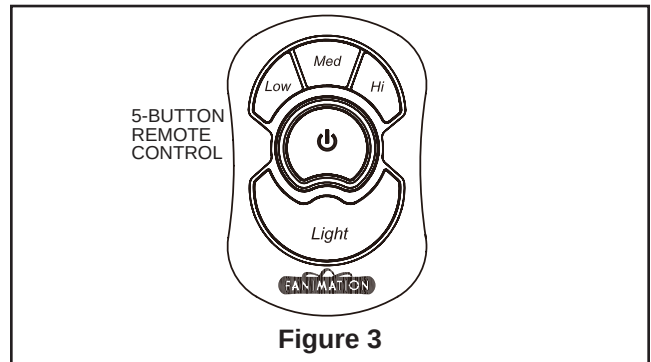

Figure 3
- ☐ 3. The 5-button hand-held remote transmitter includes five buttons for high, medium and low fan speeds as well as fan off and light on/off (Figure 3).